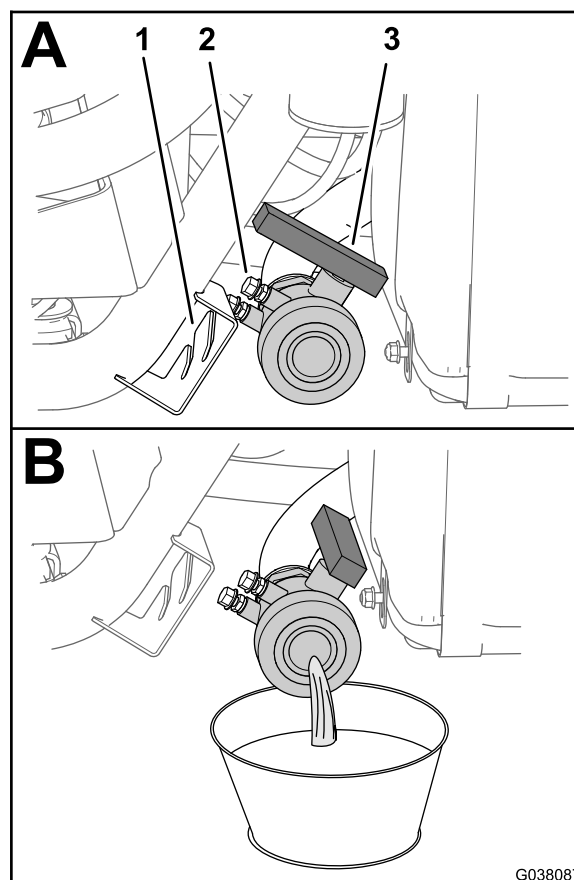

Figure 2
3. Drain the water from the sprayer tank (Figure 2); refer to Cleaning the Sprayer in the *Operator's Manual* for the machine.